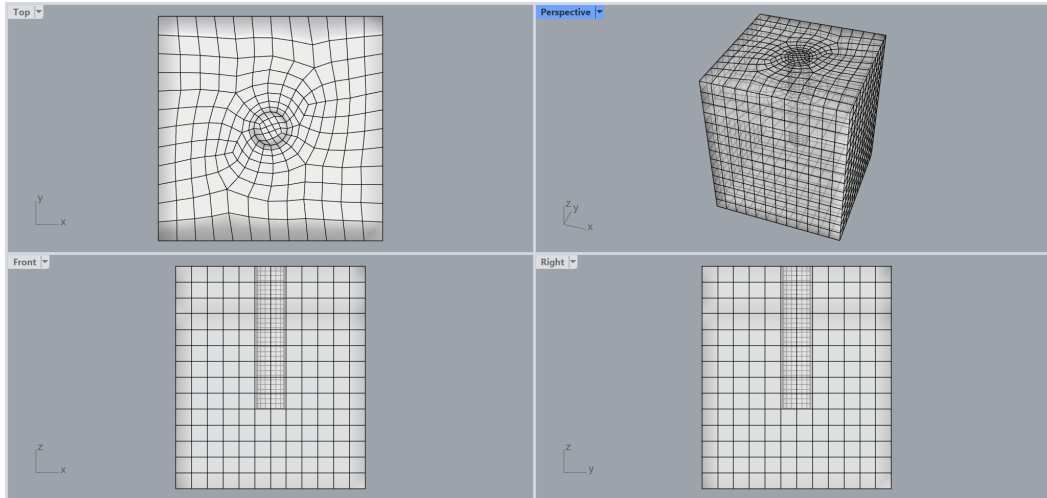

Figure 15: Remeshed model geometry using GSurf with *QuadDom* mode.
16. Select the surface mesh and type **_GSurf** or click on the  icon in the *Griddle* toolbar to remesh the initial triangular mesh. Select *Mode = AllQuad*, *MinEdgeLength = 4*, *MaxEdgeLength = 17* and keep all other parameters at the default values. Switch back to Ghosted view and the resulting mesh should match the mesh shown in Figure 15 (note that mesh the user obtains may look slightly different on the top and middle surfaces).